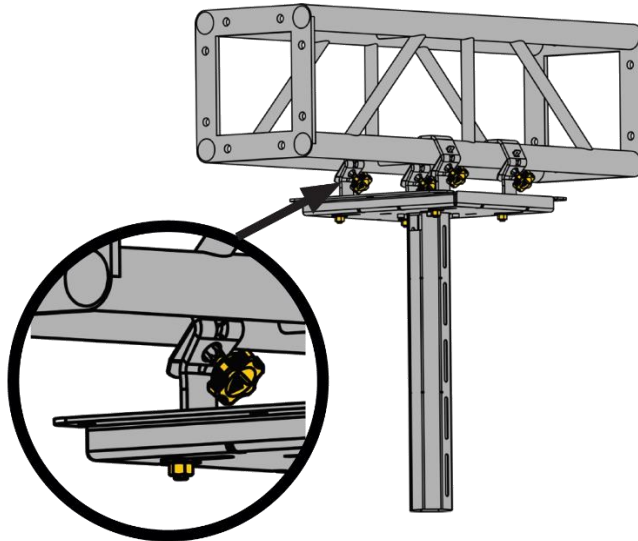

Figure 84: Step 3B-3
3. Align the ceiling plate ① in the desired position on the truss and then tighten the nuts and screws of the truss clamps ⑭, as shown in **Figure 84**.